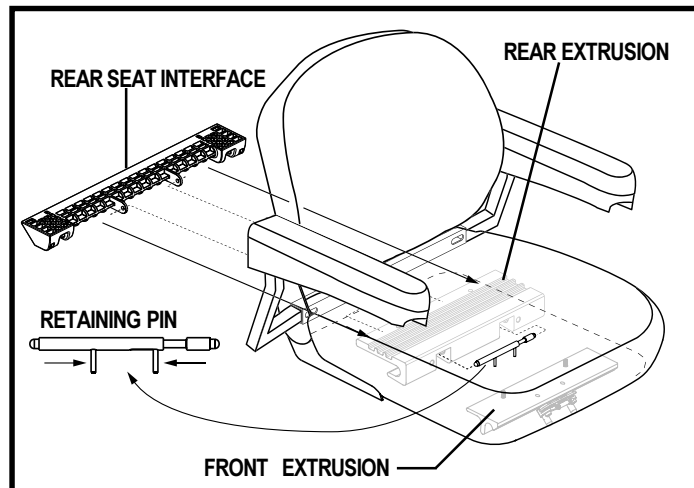

Figure 11. Rear Seat Interface Installation
Your power chair uses a seat interface system to attach the seat assembly to the power base assembly. This enables you to install and remove the seat quickly and easily. The main components are a pair of aluminum extrusions mounted to the underside of the seat base and a front and rear seat interface mounted on the power base. See figures 11 and 12.
2. Slide the rear seat interface into the rear extrusion. See figure 11.